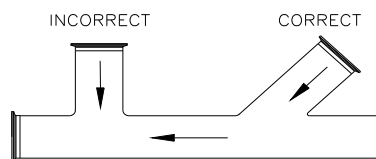

Figure 23
- Avoid abrupt transitions in the piping system (**Figure 23**).